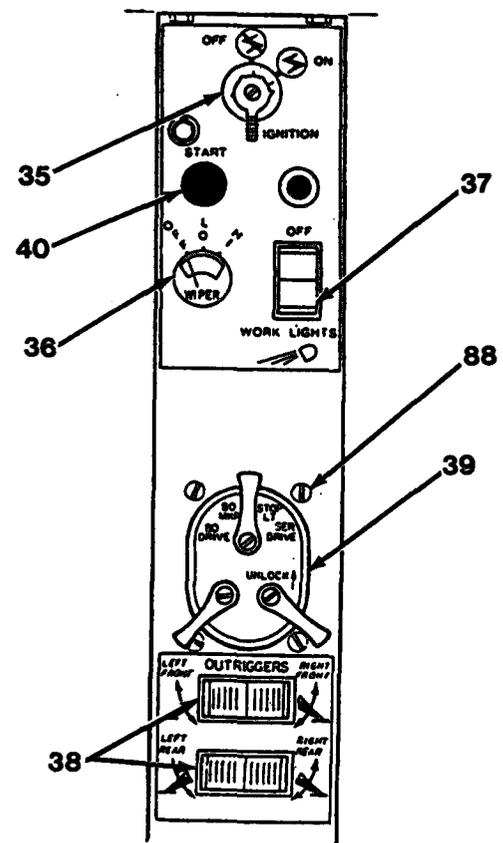

Figure 17-5
13. Removal of ignition switch (35, Figure 17-5): Remove screw from knob, pull knobs off switch (35) and remove nut. Pull switch through back of panel. Tag and disconnect wires.
14. Removal of wiper switch (36): Pull knob up, remove nut, washer and push switch (36) through panel. Tag and disconnect wires.
15. Removal of work light (37) and outrigger switches (38): Pull switch up through panel and tag and disconnect wires. Follow same procedure to remove remaining outrigger switches and work lights, if necessary.
16. Removal of master light switch (39): Remove three screws, three levers, four screws and push switch down through panel. Tag and disconnect wires.
17. Removal of start button (40): Refer to step 11.